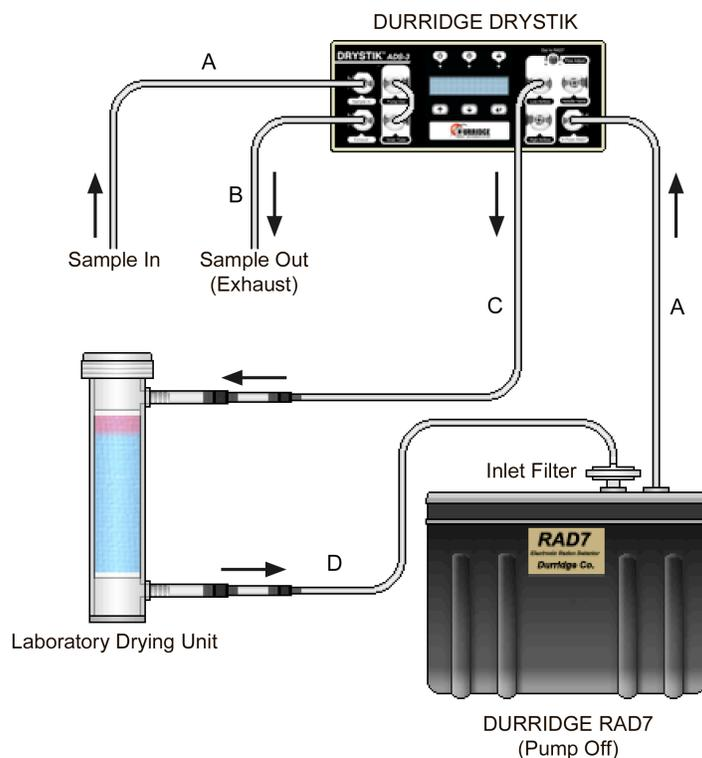

Fig. 12 Basic setup for monitoring radon in air
- Tubing Set consisting of the following sections (See Figure 1; tubing usage shown in Figure 12.)